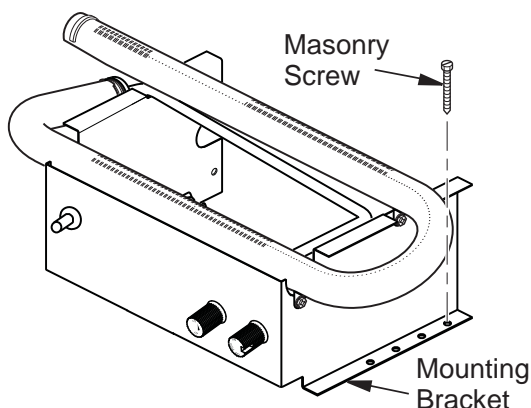

Figure 12 - Attaching Base to Fireplace Floor
7. Mark screw locations through one hole on each side of the mounting bracket (see Figure 12, Page 13). If installing in a brick-bottom fireplace, mark screw locations in mortar joint of bricks.